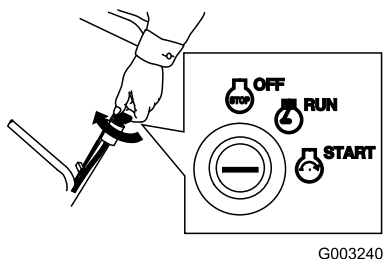

Figure 18
- Turn the ignition key to the Start position; when the engine starts, release the key (Figure 18).